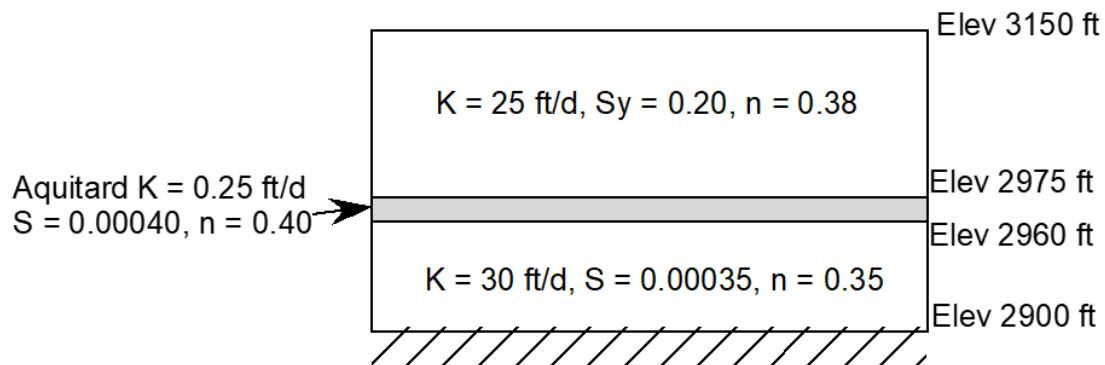

Figure 1: Elevation view of aquifer-aquitard system showing generic hydrogeologic setting
**Hydrogeologic setting** A plume of dissolved trichloroethylene has been found in a shallow unconfined aquifer. The distribution of the plume is shown on the figure on the following page. The shallow aquifer is the top of a three-layered system as shown in Figure 1.